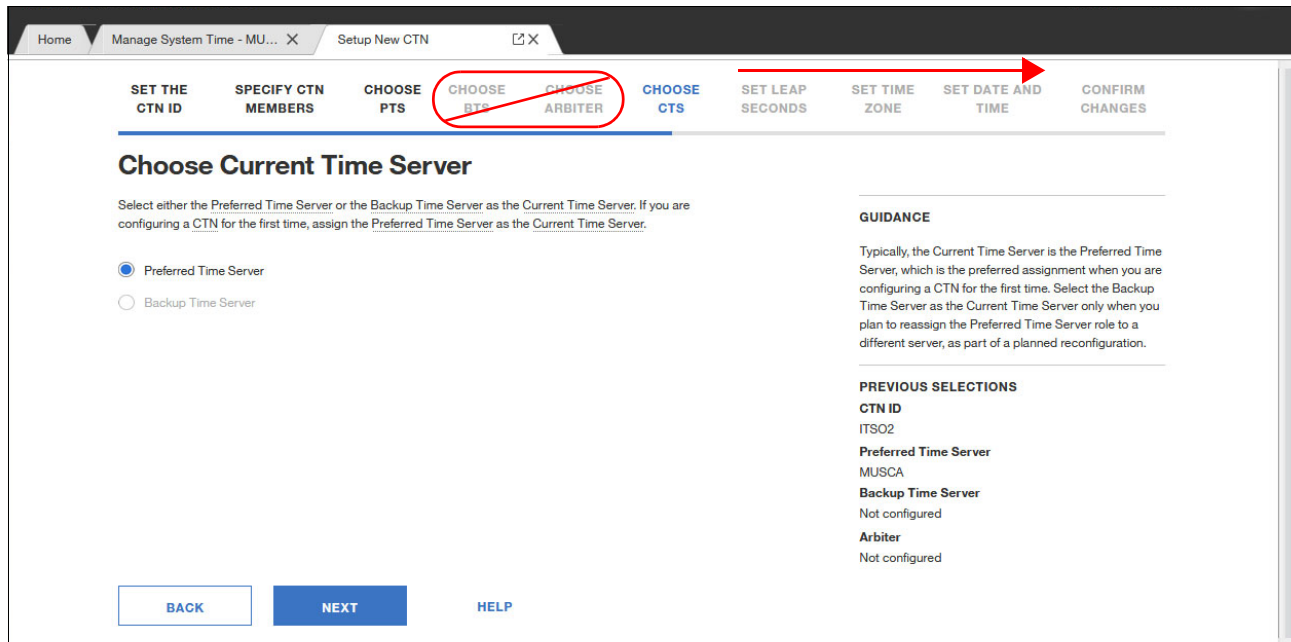

Figure 16-14 Choosing Current Time Server
6. We select the CTS as the Preferred Time Server (PTS), as shown in Figure 16-14.